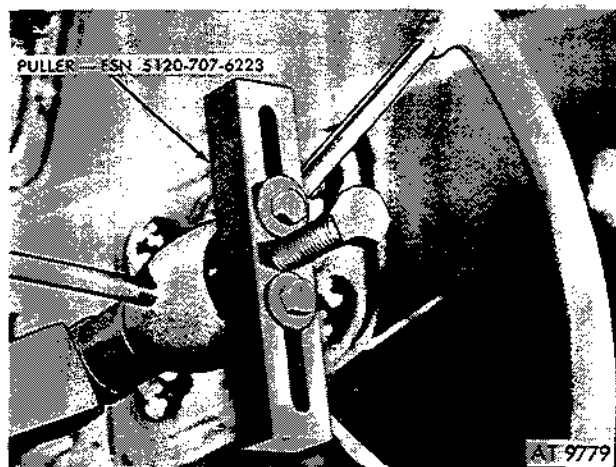

Figure 2-357. Remove steering wheel.
(3) Use puller (FSN 5120-707-6223) and remove steering wheel (fig. 2-357).